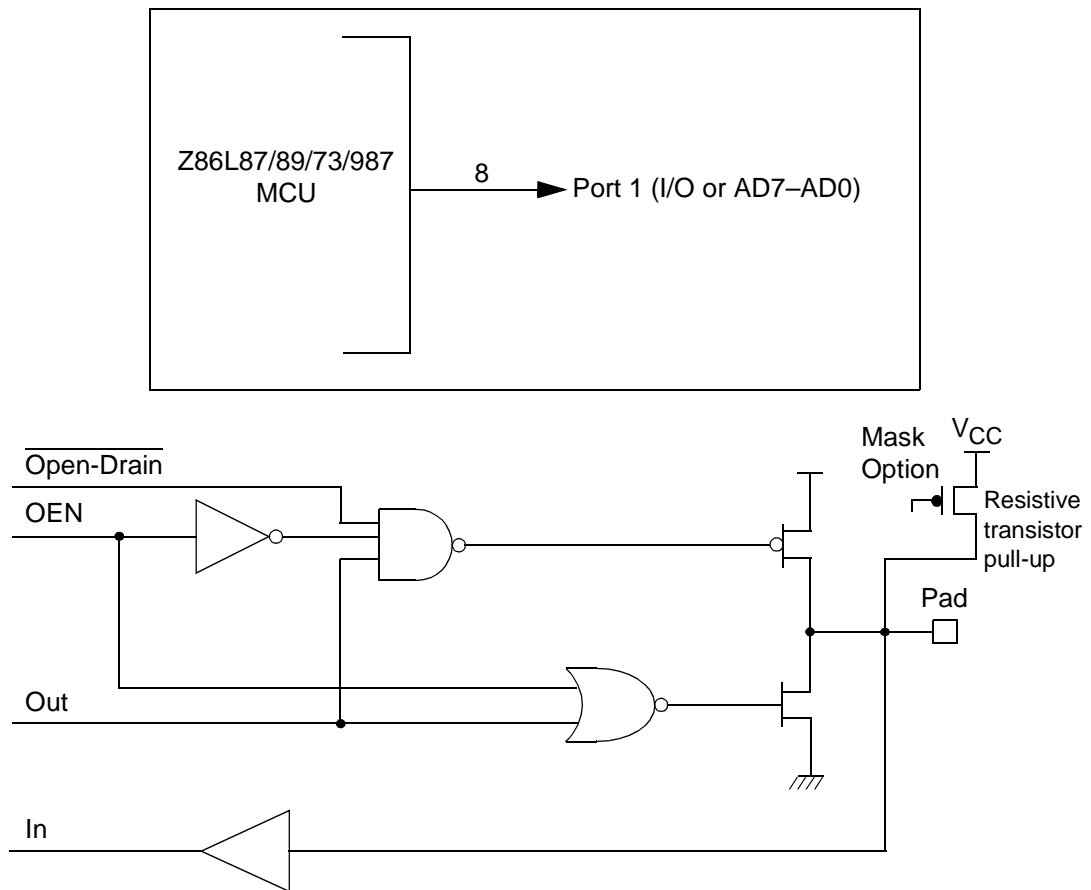

Figure 12. Port 1 Configuration
Port 1 (see Figure 12) is a multiplexed Address (A7–A0) and Data (D7–D0), CMOS-compatible port. Port 1 is dedicated to the ZiLOG ZBus[®]-compatible memory interface. The operations of Port 1 are supported by the Address Strobe (\overline{AS}) and Data Strobe (\overline{DS}) lines and by the Read/Write (R/W) and Data Memory (DM) control lines. Data memory read/write operations are done through this port. If more than 256 external locations are required, Port 0 outputs the additional lines.